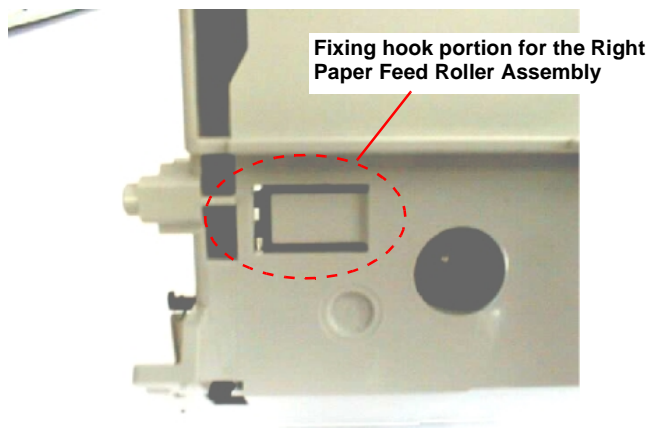

Figure 4-40. Fixing the Right Paper Feed Roller Assembly
- Ensure that the right Paper Feed Roller Assembly is fixed with the hook on the ASF unit. Check it from the back of the ASF Frame. Refer Figure 4-40.